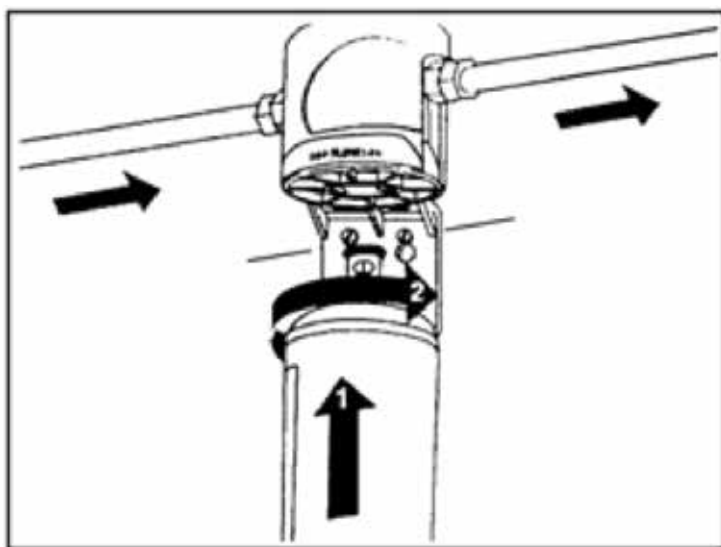

Figure 3
1. Remove sanitary cap from cartridge. Install cartridge with a quarter turn to the right until cartridge comes to a complete stop. (A "click" is heard). See "Figure 3".